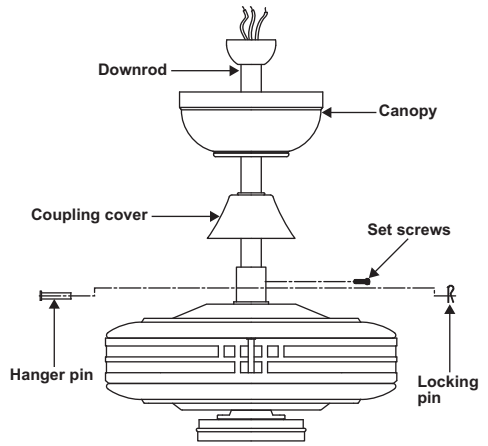

Figure 6
Step 4. Route wires exiting from the top of the fan motor through the coupling cover, canopy and then through the ball/downrod. (Fig. 6)
Step 5. Align the holes at the bottom of the downrod with the holes in the collar on top of the motor housing. Carefully insert the hanger pin through the holes in the collar and downrod. Be careful not to jam the pin against the wiring inside the downrod. Insert the locking pin through the hole near the end of the hanger pin until it snaps into its locked position, as noted in the circle inset of Fig. 6.
Step 6. Tighten two set screws on top of the fan motor firmly. (Fig. 6)